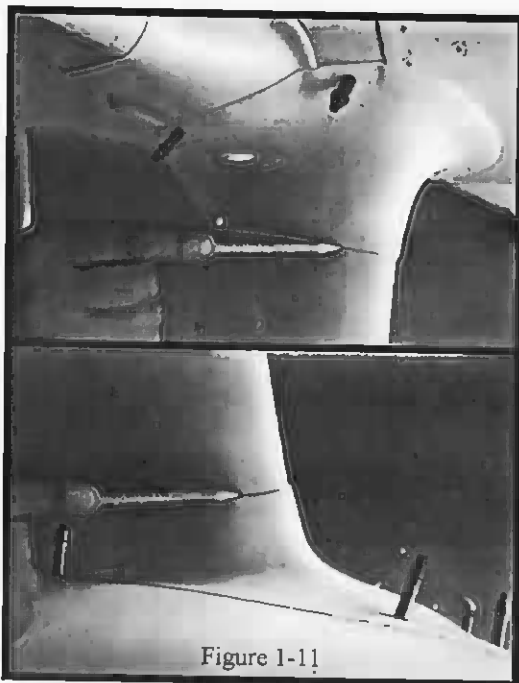

Figure 1-11
The position of the forward upper hole in the cuff may vary slightly forward or aft depending on the type of wing strut cuffs installed and should be the first hole drilled. This is why the dimple at this location is less distinct. The hole should be approximately centered between the wing strut cuff and the doubler in the fuselage skin. (Refer to the location of the forward Cleco in the upper photo of Figure 1-11 as an example.)
20. Draw a light pencil mark around the strut fairing at the openings of both the cuff and the brake fairing as shown in Figure 1-11.